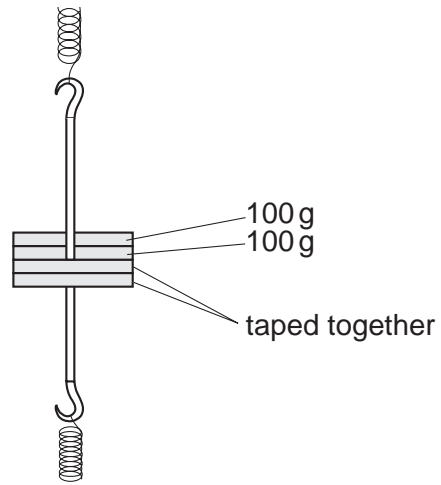

Fig. 3.2
2. The mass should be attached to the springs so that it can be easily removed and replaced with either of the other two masses. Two 100 g mass holders taped together with additional 100 g masses as required can be used as shown in Fig. 3.2.